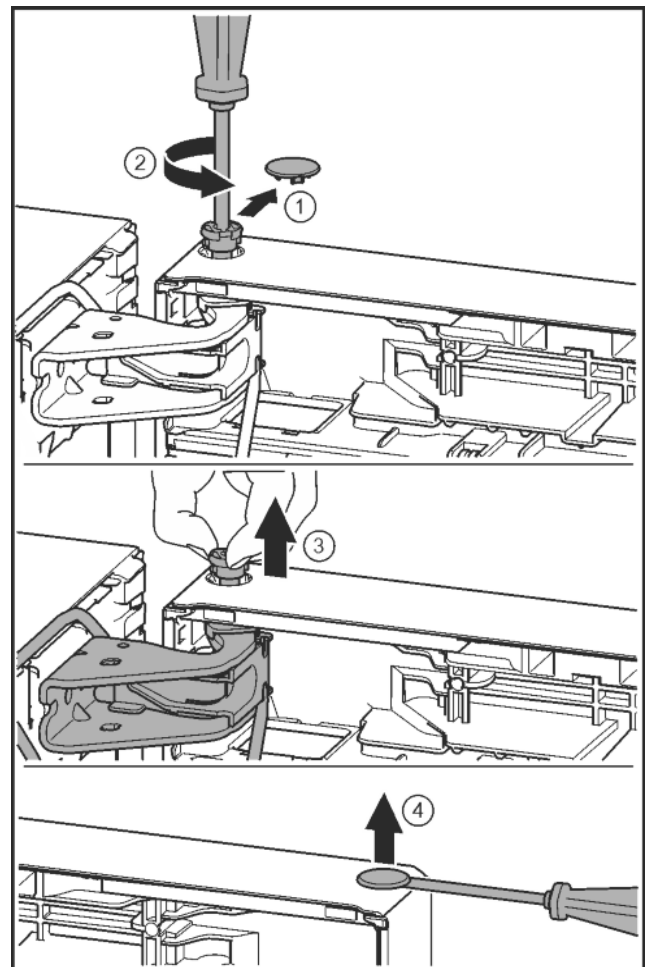

Fig. 20
- ▶ Carefully remove the protective cover. *Fig. 20 (1)*
- ▶ Undo the bolt a little with a T15 screwdriver. *Fig. 20 (2)*
- ▶ Hold the door and remove the bolts with your fingers. *Fig. 20 (3)*
- ▶ Carefully lift the plugs out of the door bearing bush with a slotted screwdriver and remove. *Fig. 20 (4)*